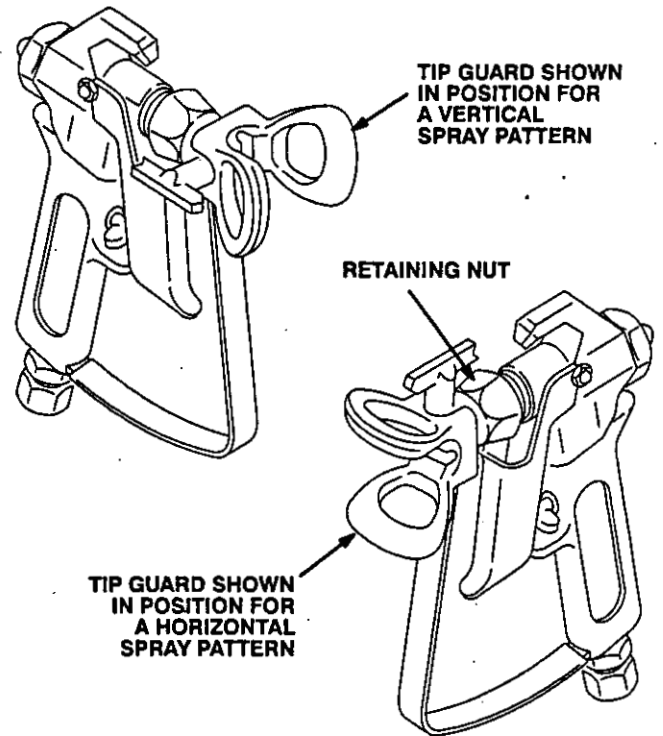

Fig 8
- c. Test the spray pattern. To adjust the direction of the spray pattern, engage the gun safety latch and loosen the retaining nut. Position the tip guard horizontally for a horizontal pattern or vertically for a vertical pattern. Hold the tip guard in place while tightening the retaining nut. See Fig 8.